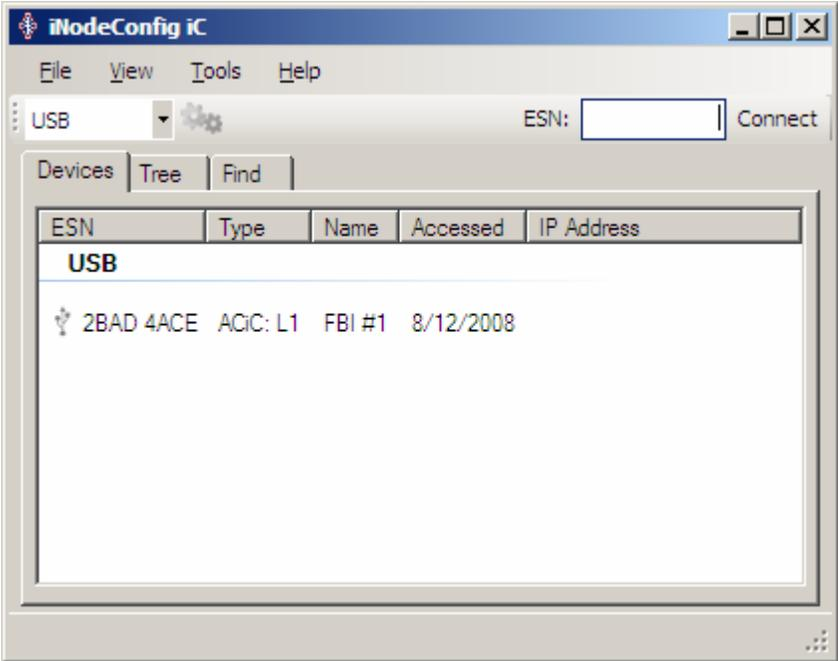

Figure 3. iNodeConfig iC Connection Screen
4. *iNodeConfig iC* will automatically recognize the ACiC connected to the PC and display the Connection Screen, as shown in Figure 3.